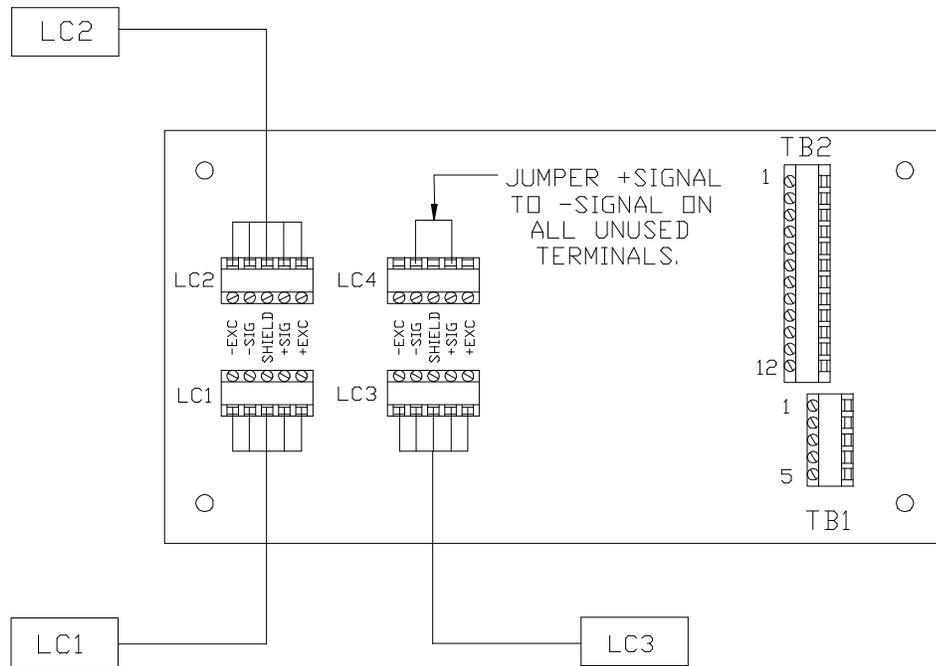

Figure 5-a Enhanced DigiTOL J-Box PCB Load Cell Wiring (Three Load Cell Wiring Detail Shown)
3. If a single cell system is required, wire the cell into the LC1 terminal. If a two cell system is required, use LC1 and LC2. For a three cell system use terminals LC1, LC2, and LC3 (See Note and Figure 5-a).